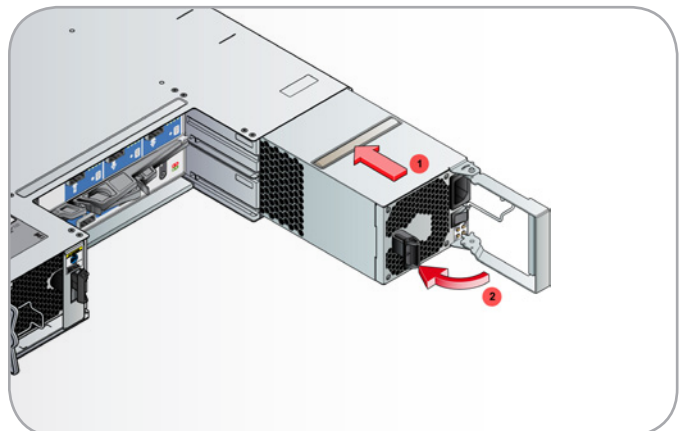

Fig. 73 - Inserting the Power Cooling Module
2. Slide the module partially into the enclosure (Fig. 73, Item 1).